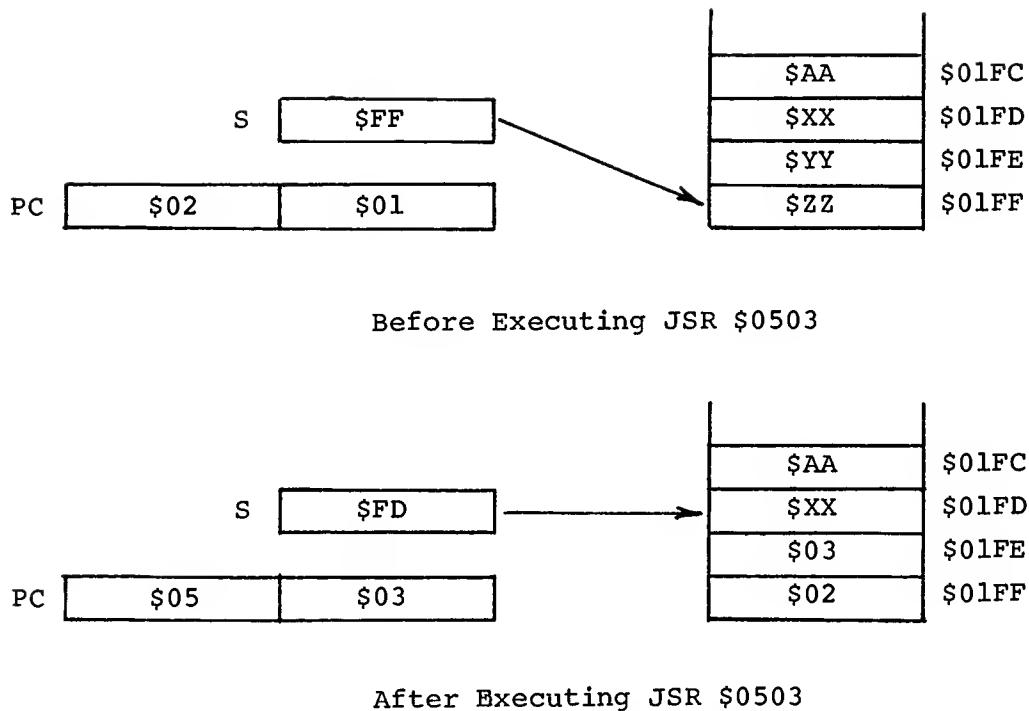
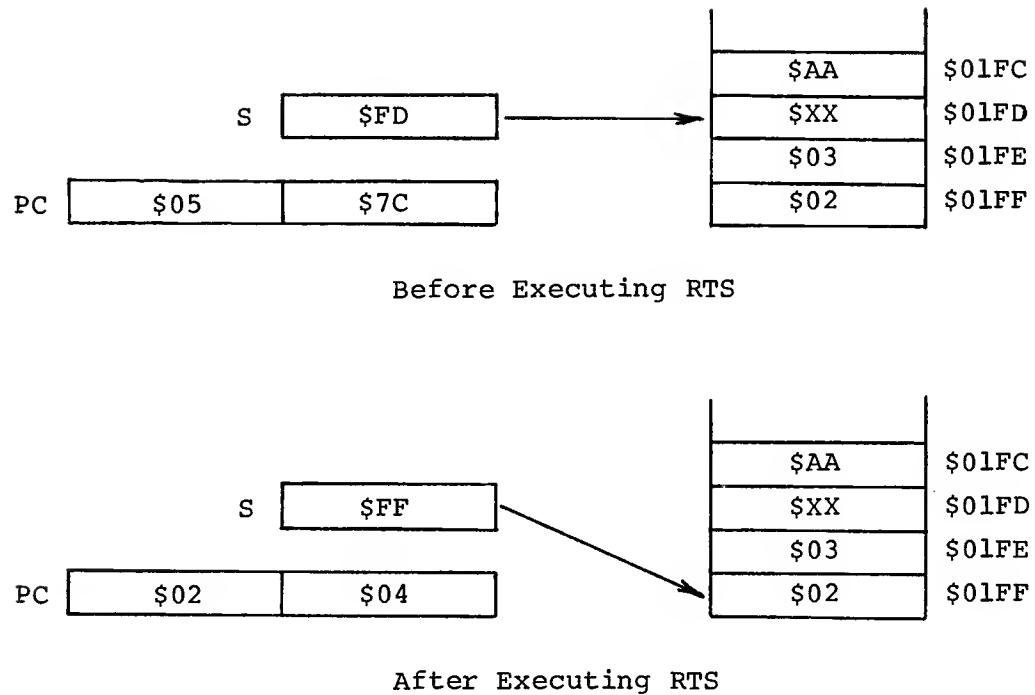

Figure 8-2. How JSR Saves a Return Address on the Stack
Figure 8-3. How RTS Pulls an Address from the Stack
Figure 8-2 shows the contents of the Stack Pointer (S), the Program Counter (PC) and the stack before and after the instruction JSR \$0503 is executed. In the upper drawing, the Program Counter is pointing to the first byte of the JSR instruction (\$0201) and the Stack Pointer is pointing to the next free location on the stack (\$01FF is assumed). In the lower drawing, after the JSR \$0503 instruction has been executed, the Program Counter is pointing to the starting address, or entry address, of the subroutine (\$0503), the Stack Pointer is pointing to a new "next free stack location" (\$01FD), and the two top bytes on the stack are the most-significant and least-significant address bytes of the JSR instruction's third bytes.
Recall our previous example in Figure 8-2, which illustrated stack operation due to executing the instruction JSR \$0503. If the called subroutine contained an RTS instruction at location \$057C, Figure 8-3 shows the contents of the Stack Pointer (S), the Program Counter (PC) and the stack before and after that RTS instruction is executed.